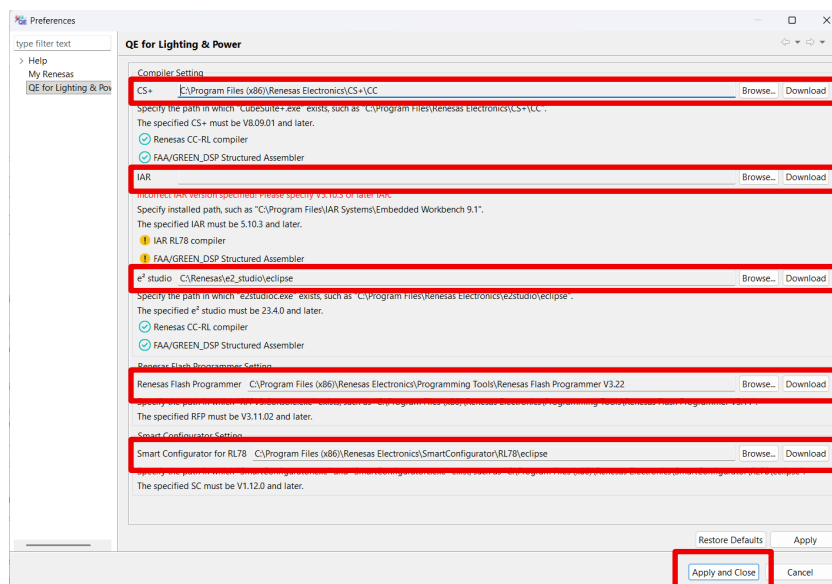

Figure 3.2 Preferences Settings
- (2) The installation locations for “CS+” or “IAR” or “e2 studio”, “Renesas Flash Programmer (RFP)”, and “Smart Configurator” will be displayed (Figure 3.2).
- (3) If these software packages are already installed, the paths to their respective installation folders will be entered automatically.
- (4) If any software is not installed, or if an item is marked with a yellow “!”, click “Download” for that software. Follow the instructions on the vendor’s website to download and install the required software.
- (5) After all software installations are completed, click “Apply and Close.”